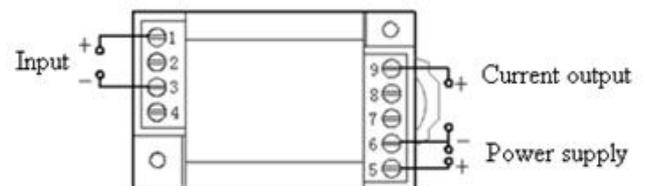

Figure 5, wiring diagram of CE-F01-4 \* MS2 / CE-F01-5 \* MS2
- ① 4mm diameter hole in the fixed plate according to the screw hole position shown in Fig. 5;
- ② Use the screw  $\Phi 3$  to insert into hole and secure it.